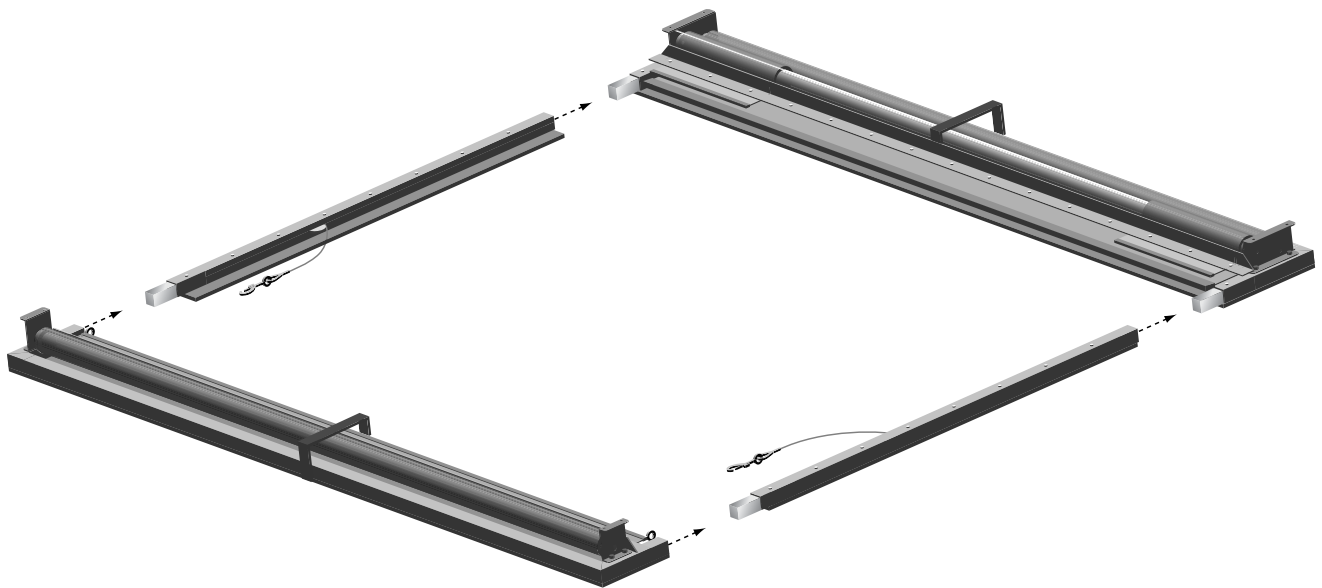

Figure 3: Assembling the frame
1. Connect the four pieces by matching the colored numbered dots on the ends of the frame pieces. See Figure 3.